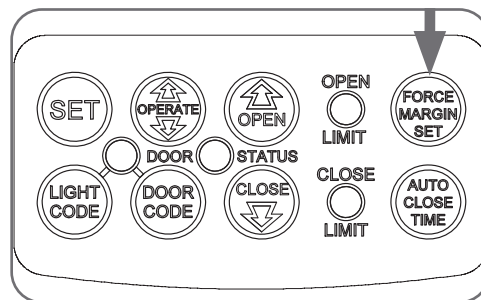

Fig.6.8.3
- Press and hold the FORCE MARGIN SET button (**Fig 6.8.3**).